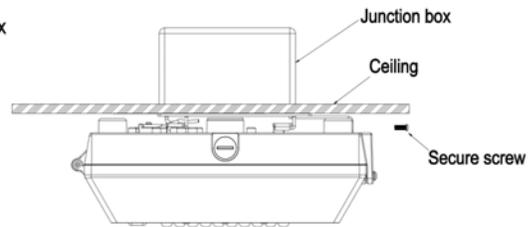

FIG.7
4. Raise fixture to leveled position and push Fixture forwards to slip fixture to to fixed bracket. Secure fixture in position by the secure screw to prevent it moving (see FIG. 7).